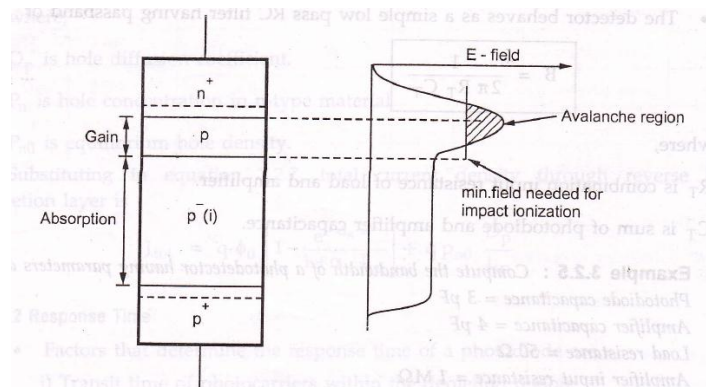

Fig. 3.2.5 APD schematic and variation of E-field across diode
- Fig. 3.2.5 shows the schematic structure of an APD. By virtue of the doping concentration and physical construction of the  $n^+ p$  junction, the electric field is high enough to cause impact ionization. Under normal operating bias, the I-layer (the p- region) is completely depleted. This is known as **reach through** condition, hence APDs are also known as **reach through APD** or **RAPDs.**]